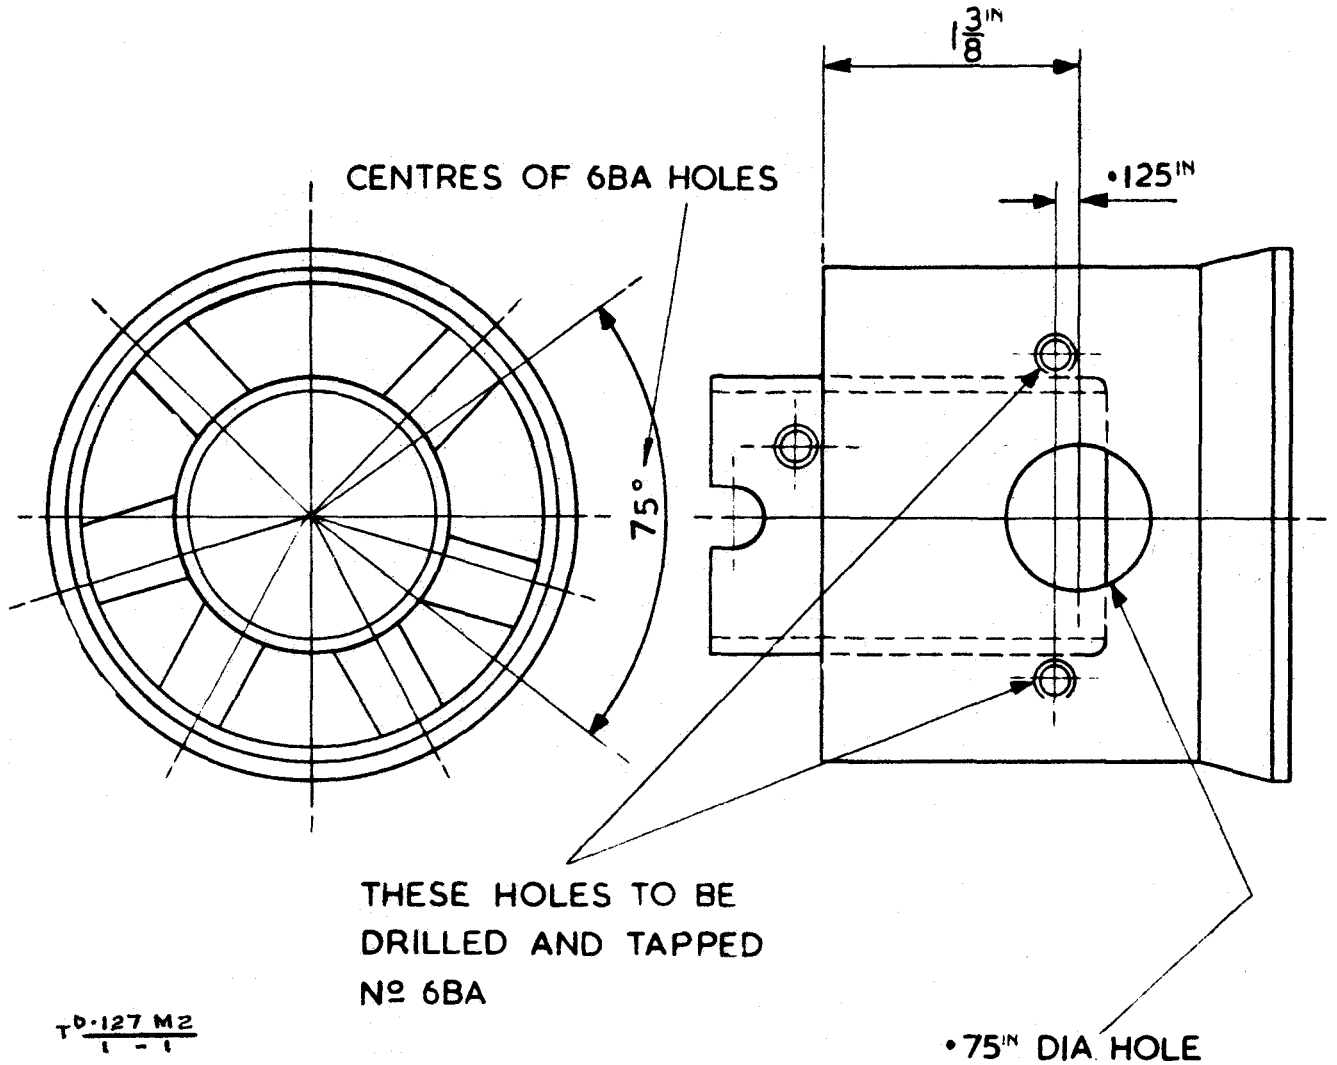

Fig 1 - Drilling details for housing
- (d) Drill and tap the blower motor housing as shown at Fig 1. Note that these holes are on the opposite side to the designation plate and on the same side as the red, direction-indicating, arrow.